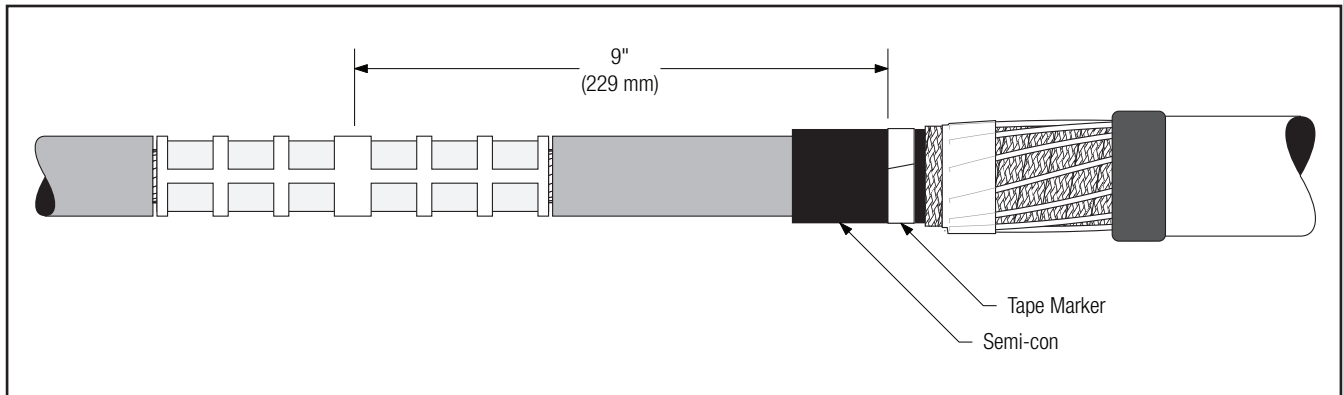

Figure 13
- 4.1 Apply a tape marker to semi-con insulation shield on cable which does not contain splice. Measure 9" (229 mm) from center of connector (Figure 13).